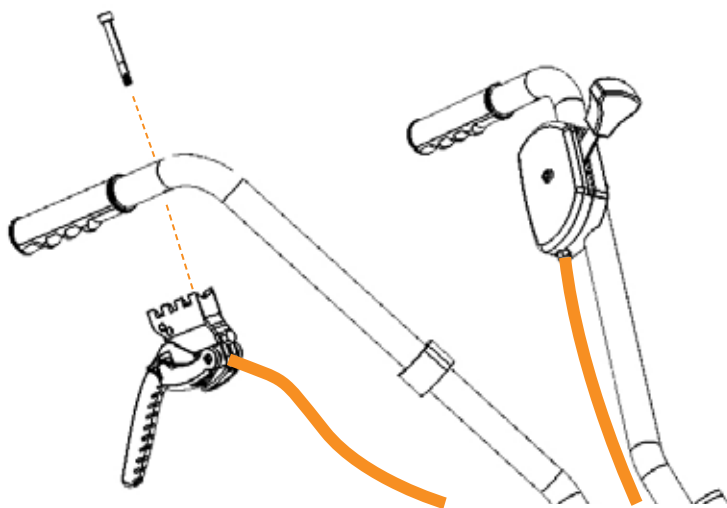

Figure 7
2. Push a threaded hex bolt through the top of the handlebar into the safety control lever and tighten securely (see Figure 7).